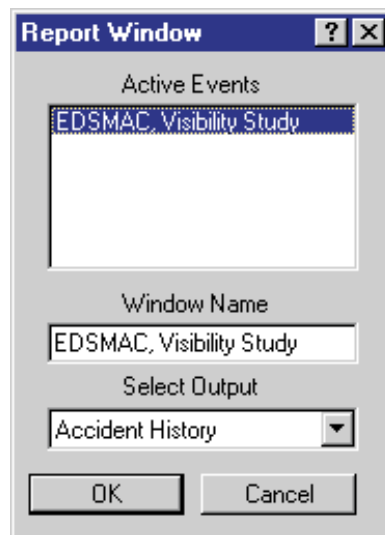

Figure 5-9 Report Window Information dialog, showing the name of the event(s) in the current case.
- Click *Add New Object*. The Report Window Information dialog is displayed, as shown in Figure 5-9, and includes a list of the active events (*EDSMAC, Visibility Study* is the only event in this tutorial). The Report Window Information dialog also includes the user-editable *Report Window Name* text field and *Selected Output* option list.